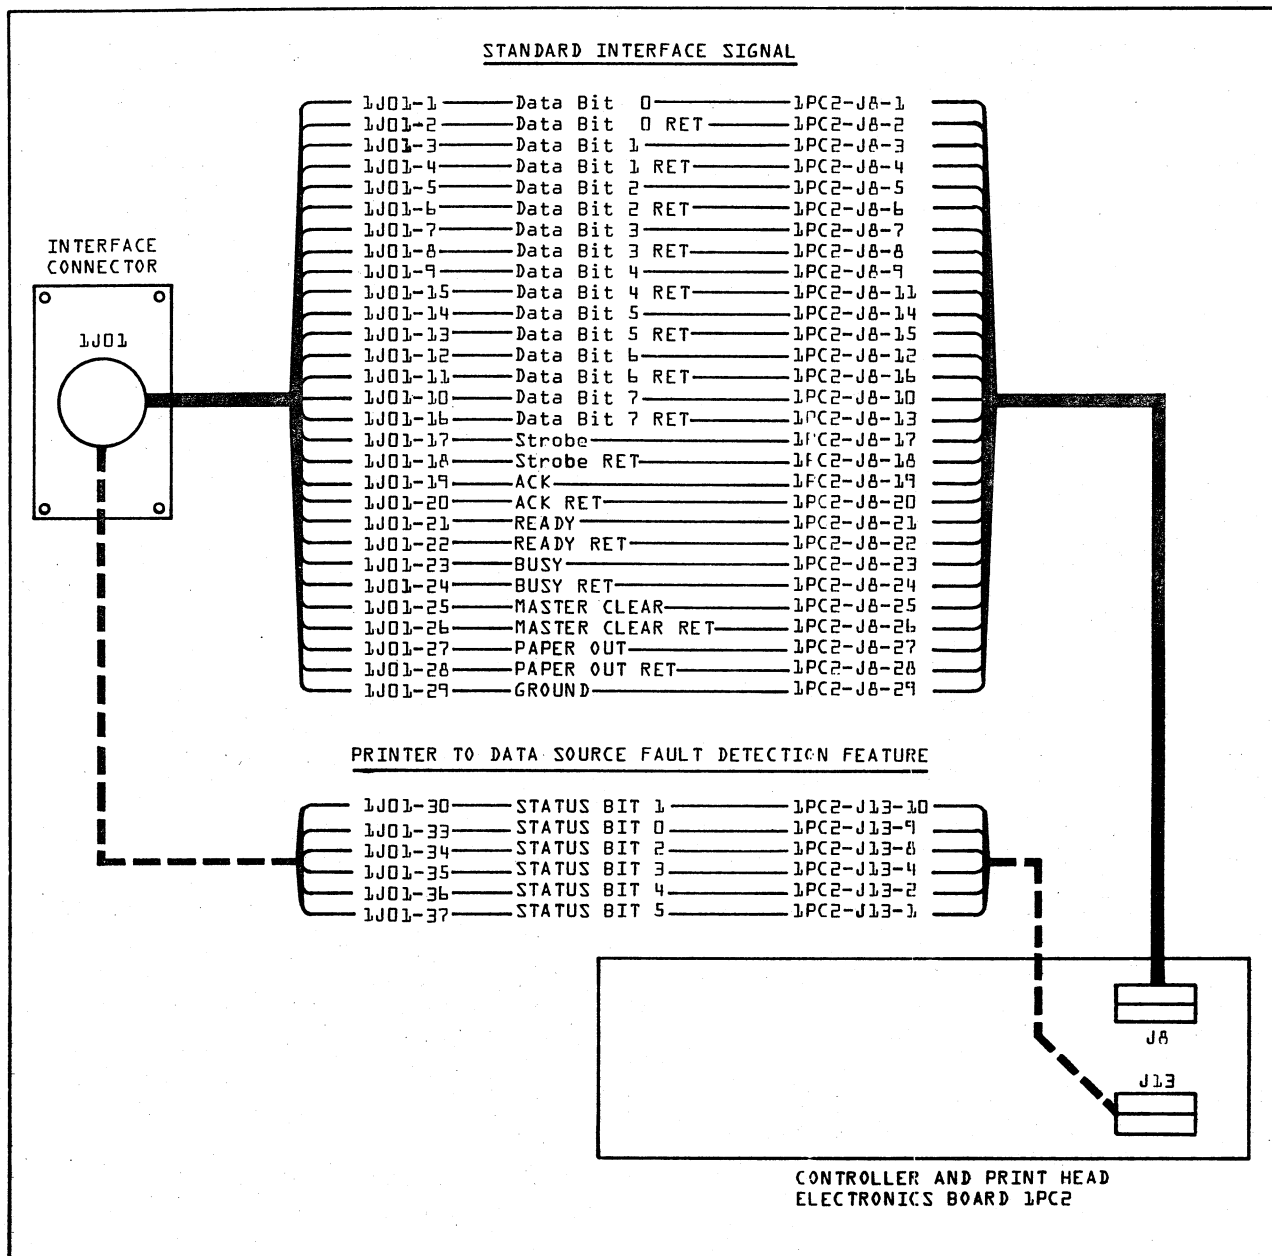
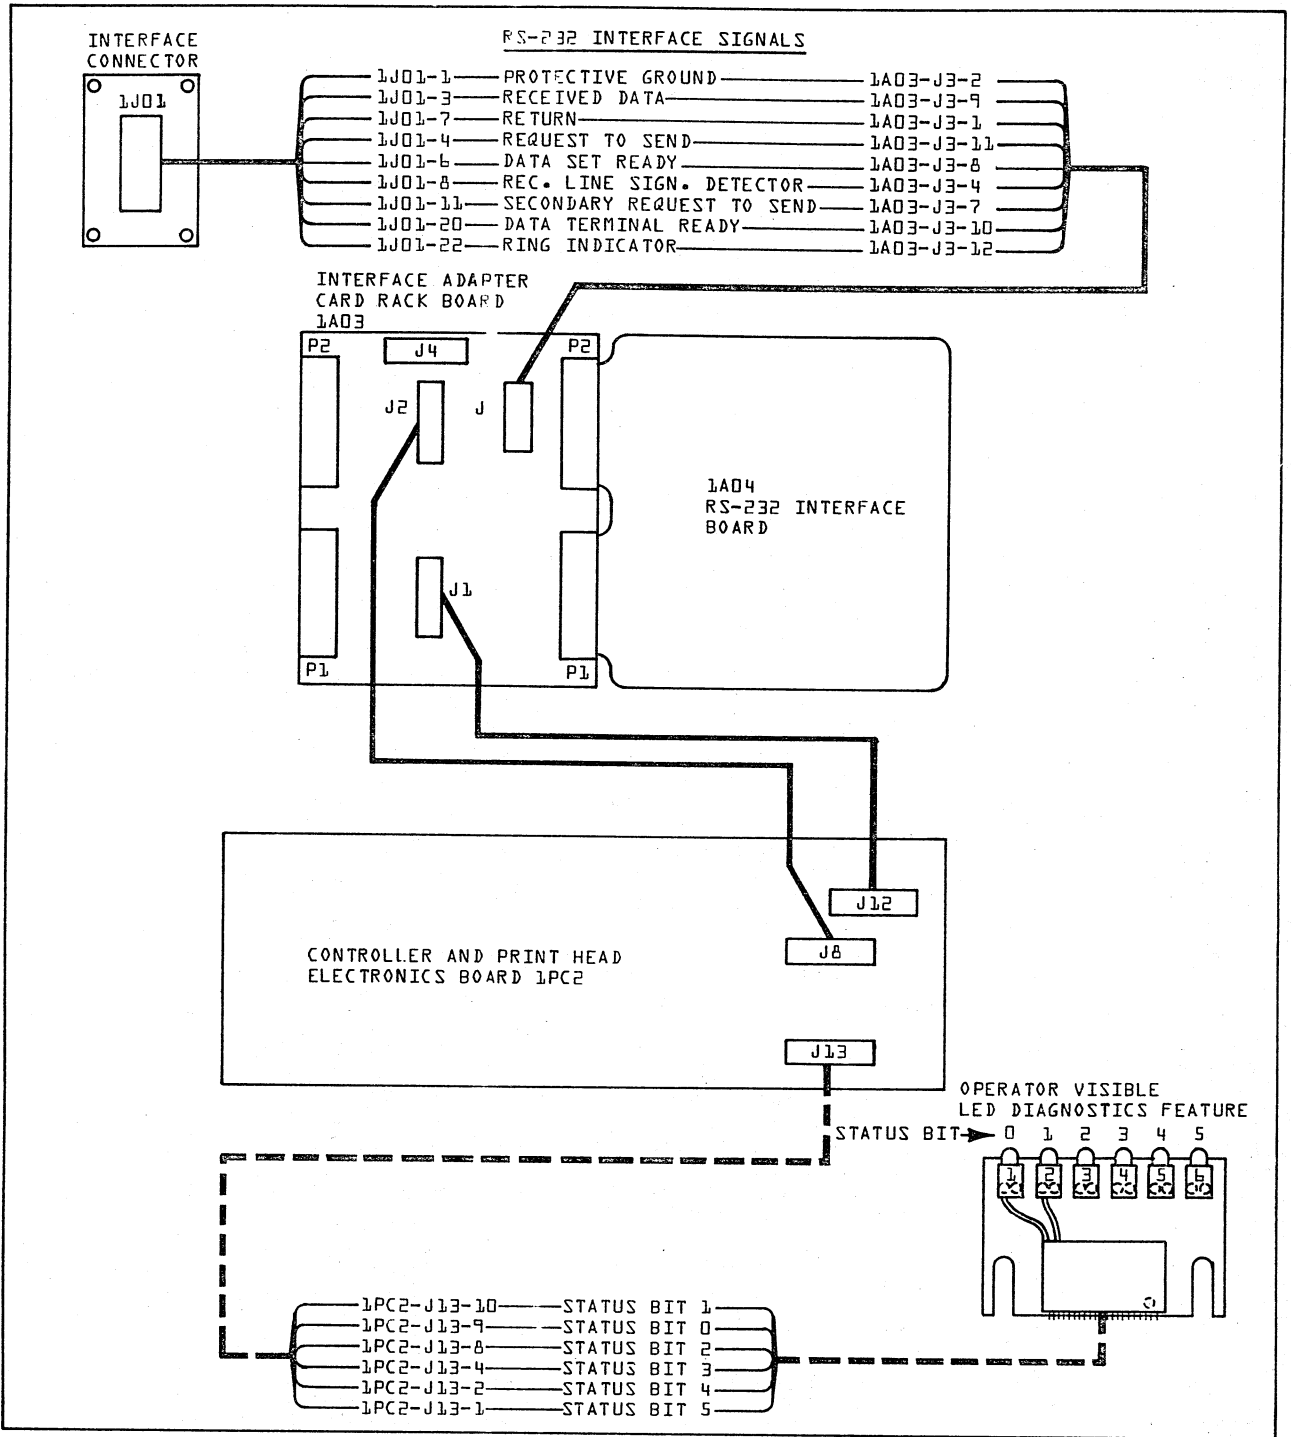

FIGURE 10-1. STANDARD INTERFACE PIN ASSIGNMENTS
FIGURE 10-2. RS-232 INTERFACE PIN ASSIGNMENTS
The operator visible LED diagnostics feature functions in the same manner as the 1PC2 mounted version, with the exception that the fault signals are routed by a cable from connector 1PC2-J13 to the side of the printer for display (see Figure 10-2).
With this feature installed, the printer isolates and transmits a binary code to the data source whenever the printer controller detects an error condition or operation (a summary of these binary codes and their interpretation is given in Figure 6-4 in the Fault Isolation Section of this manual). The data source then uses this binary code information to control data transmission and printer status. In addition to the standard interface signals, there are six (6) status lines which convey these binary codes through the printer interface connector to the data source (see Figure 10-1).
Three different interfaces are presently used on ODC printers, the Standard Interface, the Standard Interface With Fault Detection Feature and the RS-232 Interface. The Standard Interface and the Standard Interface With Fault Detection Feature are both shown in Figure 10-1. For additional information on the Standard Interface see Page 1-8 or the Introduction to this manual. The RS-232 Interface is shown in Figure 10-2. For additional information on the RS-232 Interface see the separate RS-232 Interface manual, publication number 95445069.
Interface = RS-232 Buffered Interface (Figure 10-2).
Interface = Standard 36 pin interface connector connected directly to the printer Controller Board 1PC2 (Figure 10-1).
Interface. = Standard 36 pin interface connector connecting 29 interface signals and 6 diagnostic status bits directly to and from the printer Controller Board 1PC2 (Figure 10-1).